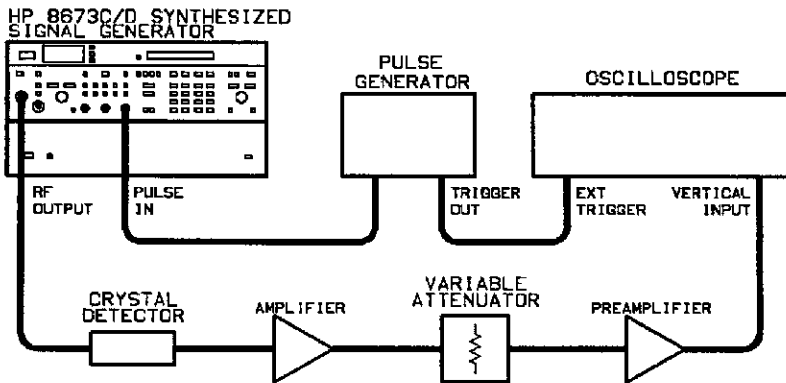

Figure 5-59. Pulse Amplitude Control Adjustment Test Setup
2. Connect the equipment as shown in figure 5-59.